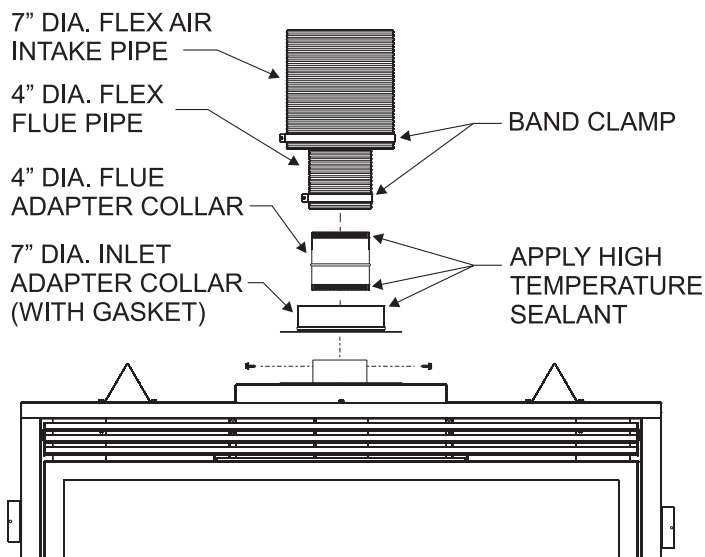

Figure 47
17. To attach the vent connections at the fireplace, be sure the 7" diameter adapter collar has been installed per step 3. Apply a bead of silicone sealant to the 4" diameter flex connector, then slide the flex pipe adapter collar into the fireplace flue collar and secure by installing a minimum of two screws through the flue collar and into the adapter. **See Figure 47.**
18. Apply sealant to the 7" diameter adapter collar, slide outer flex vent over the collar, then secure with a 7" diameter band clamp. **See Figure 47.**